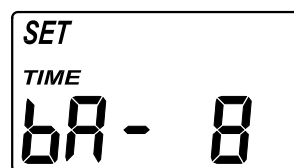

FIG. 39
2. Press the SELECT button twice, so that "SET bA TIME" appears in the display (See Figure 39).